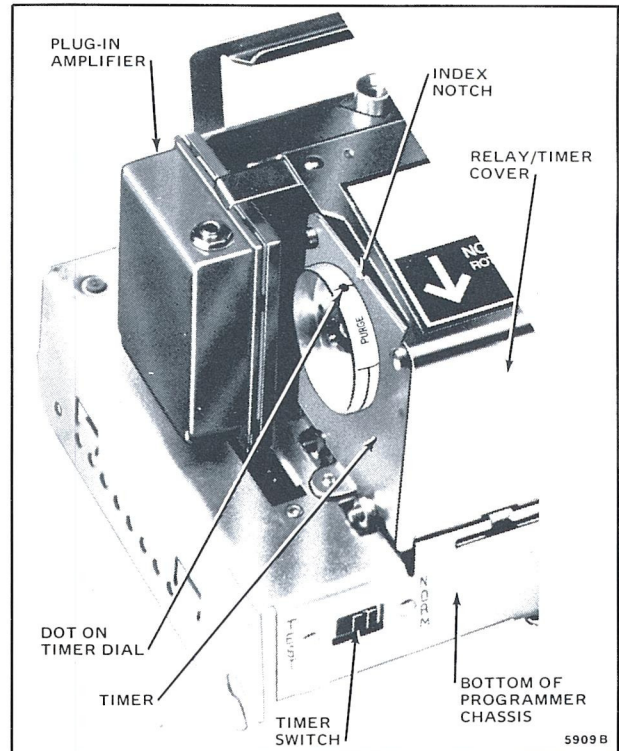

Fig. 9—Location of the timer switch and position of the timer dial at startup.
9. Timer switch is in NORM position (Fig. 9).
10. The large dot between PURGE and PREPURGE on the timer dial is at the index notch (Fig. 9). If it isn't, manually rotate the timer dial to the proper position. *Rotate the timer only in the direction shown by the arrow on the relay/timer cover.*